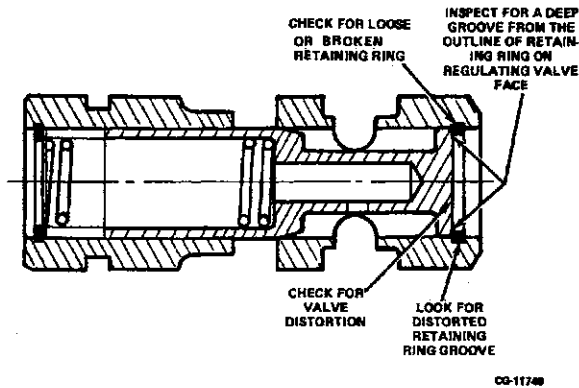

Figure 9.39. OPRV Assembly Inspection Check Points
3. Visually inspect the retaining ring, ring groove and front edge of the oil pressure regulating valve. If parts show the following, replace the OPRV assembly with the revised design. Refer to Figure 9.39.